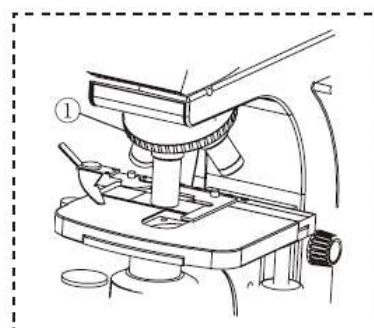

Fig. 16
a) Rotate the revolving nosepiece by its rim(① in Fig.16) to engage the required objective into the light path and